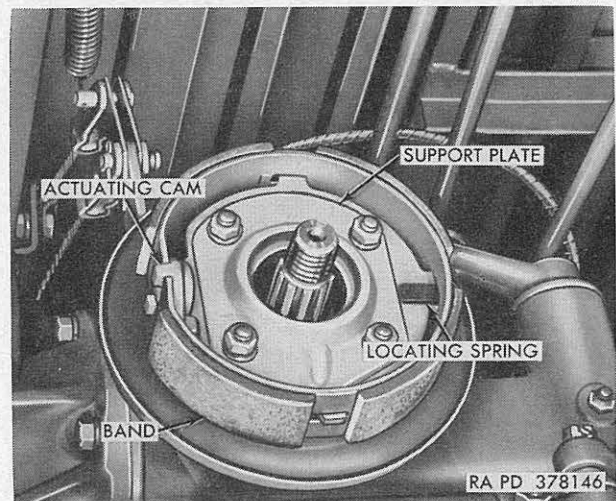

Figure 75. Brake with drum removed.
- (3) Remove band locating spring (fig. 75) from between brake band and right prong on brake support plate. Remove brake actuating cam. Spring brake band off support plate.
- (4) Spring brake band (fig. 75) onto prongs of brake support plate, and install band locating spring between right prong and band. Spread ends of band slightly and install actuating cam on left prong of support plate and between ends of brake band.